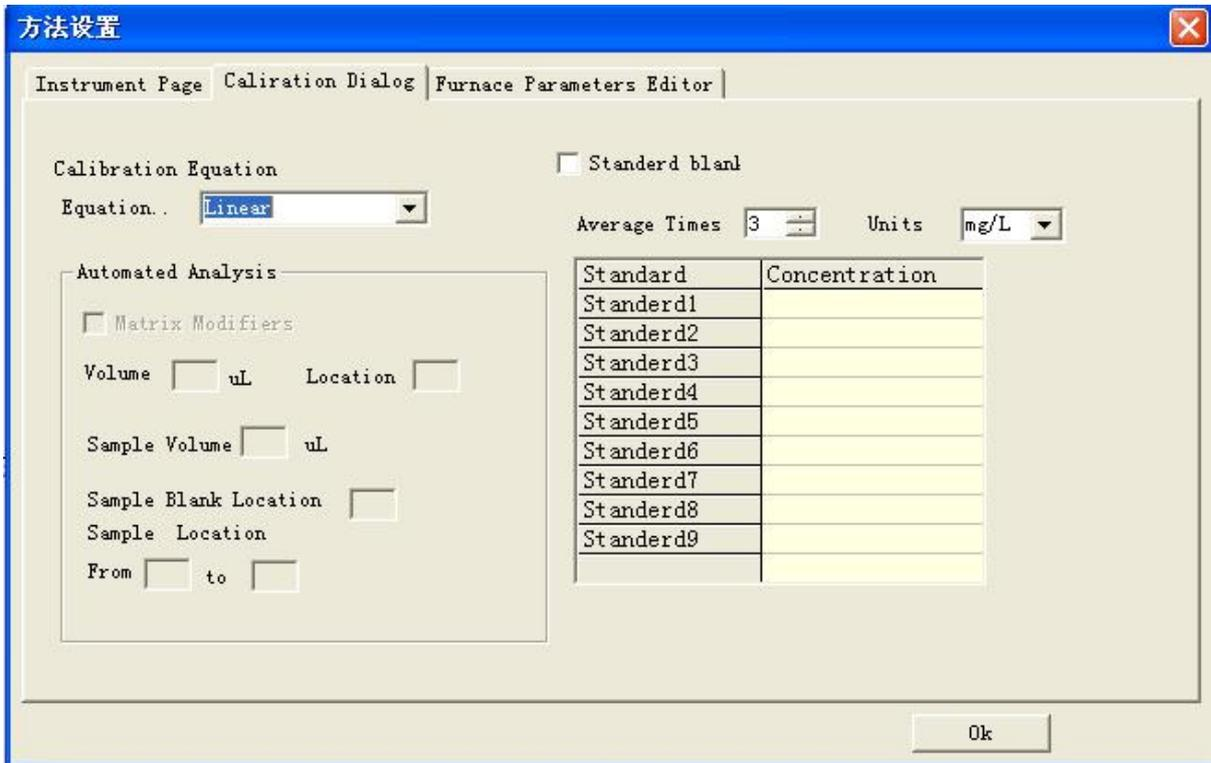

Figure 5-15
4. Press 【Method Editor】 ,open the “Calibration Dialog”window(Figure 5-15)